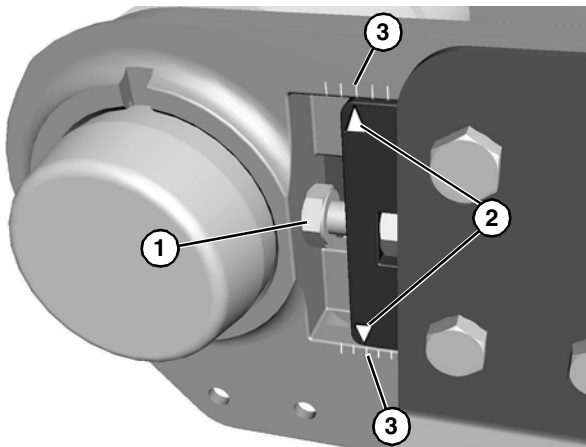

Figure 54
1. Tighten or loosen bolts (**Figure 54, item 1**) on each side to correct tracking. (Align the same arrows (**Figure 54, item 2**) and marks (**Figure 54, item 3**) on each side of the conveyor as a starting point for tracking the belt.)